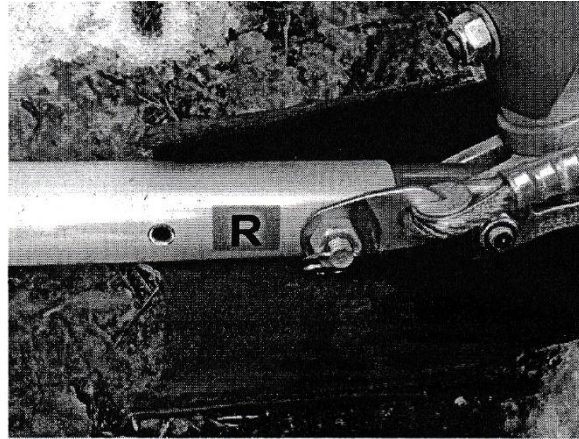

Figure 14
12. Attach the strut safety wires (left and right) to the base tube. Tighten the nut and secure with a safety ring (fig. 14). Attach the control frame corner protection cover with Velcro.